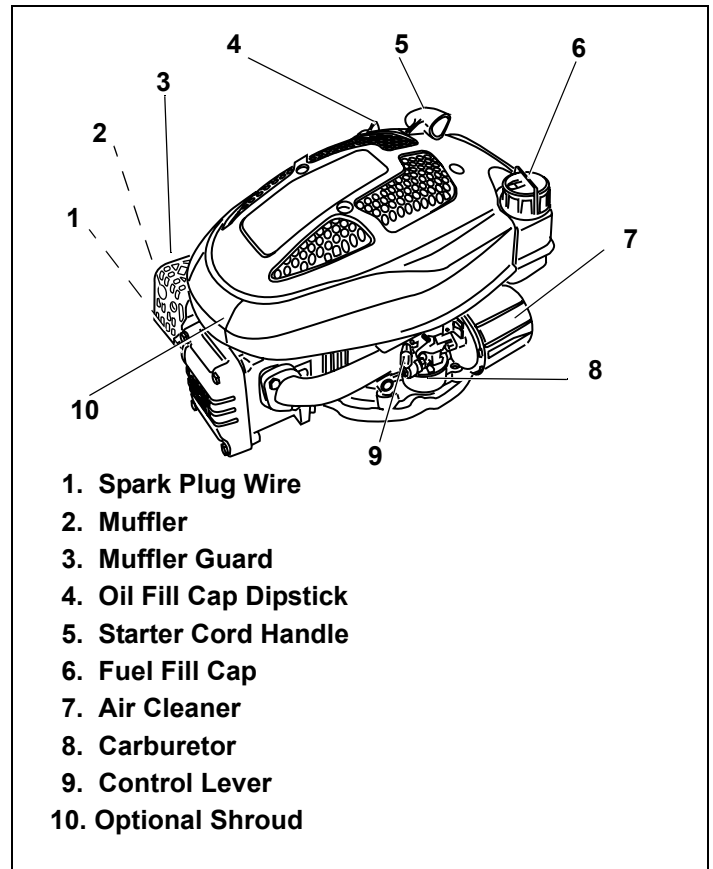

Figure 13. Engine Components
2. Move engine throttle control to "CHOKE" or "START" position, if present (see equipment manufacturer's instructions). See Figures 13 thru 16. Afterward, continue reading instructions below.
If restarting a warm engine after a short shutdown, move engine throttle control to "FAST" position instead of "CHOKE" or "START" position. See Figures 13 thru 16. Afterward, continue reading instructions below.